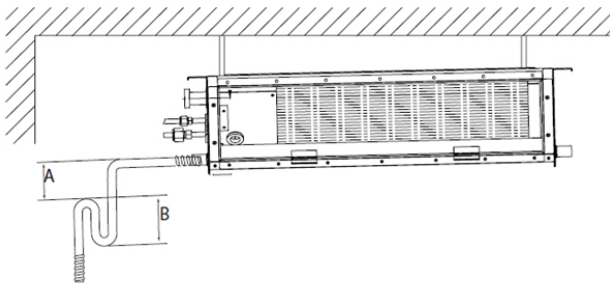

fig. 14
- Avoid rises or ridges in the drain pipe, see 1-Fig.14